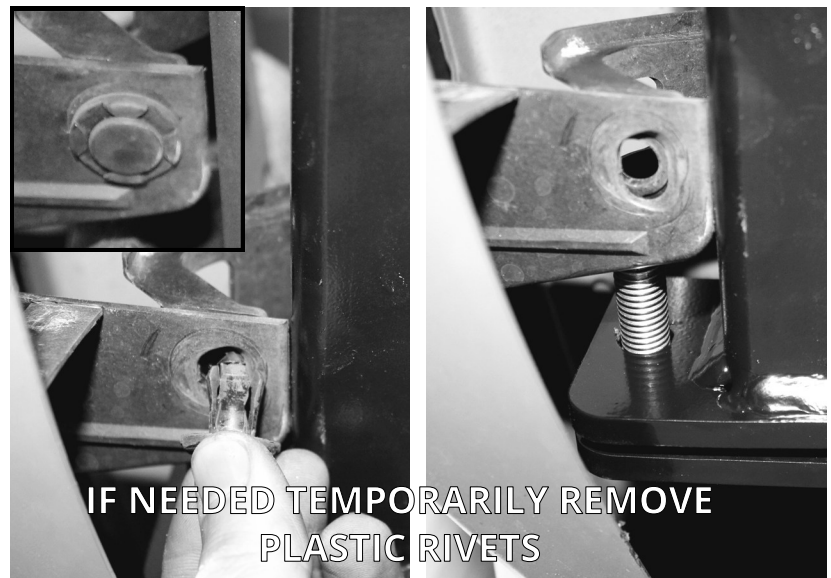

FIGURE B3: VIEW UNDER THE REAR OF THE VEHICLE
8. Two plastic tab holding the fascia may need to be temporarily relocated to make room to tighten the 1/2" carriage bolts. Use a pick tool to remove the plastic rivets as shown in Figure B3.